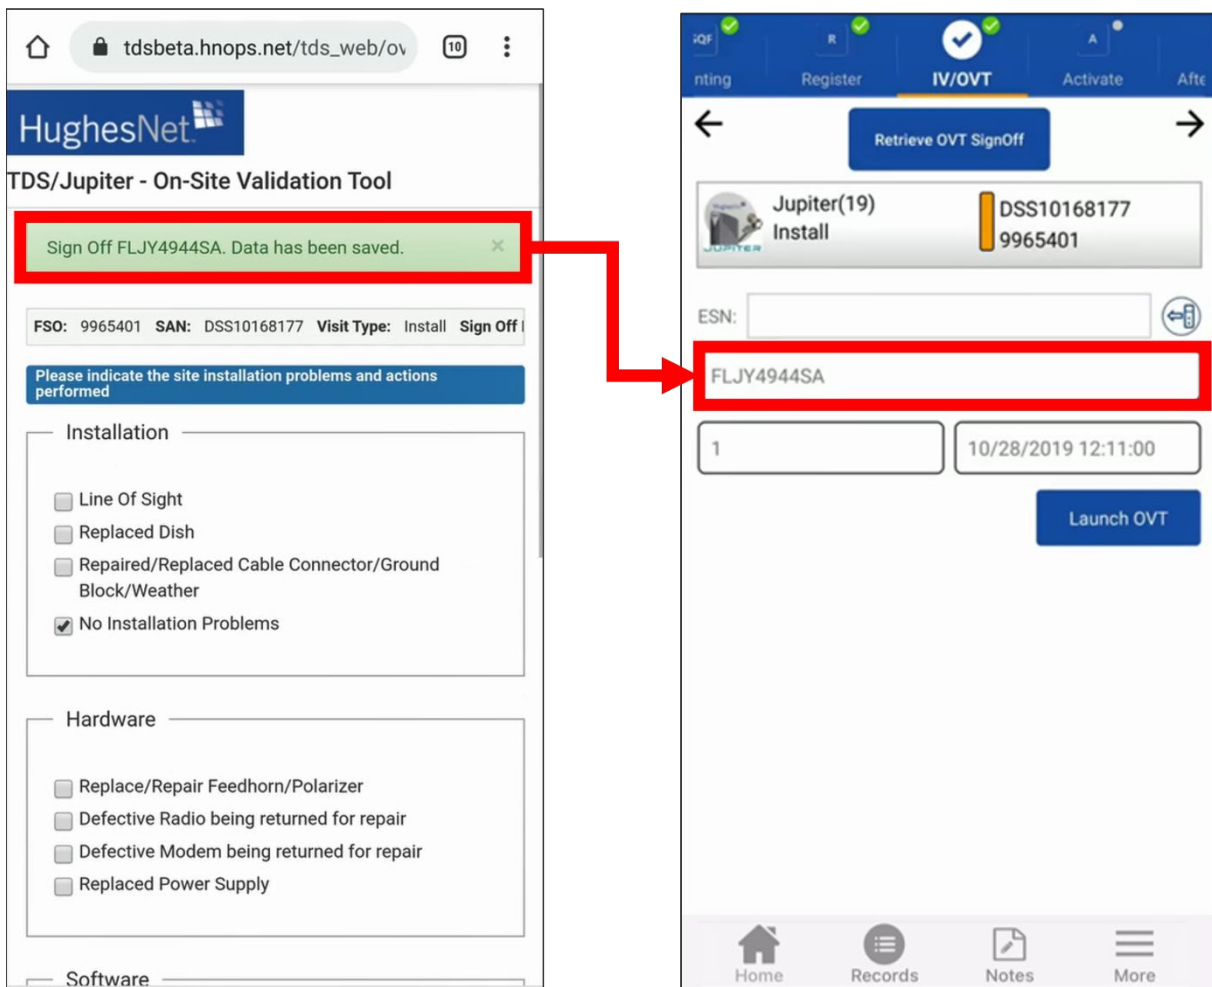

Figure 80: OVT step – signoff number
OVT will generate a sign-off code that displays at the top of the screen (see the screenshot on the left in Figure 80).
13. Tap **Retrieve OVT SignOff** to pull the number from OVT (see the screenshot on the right in Figure 80).